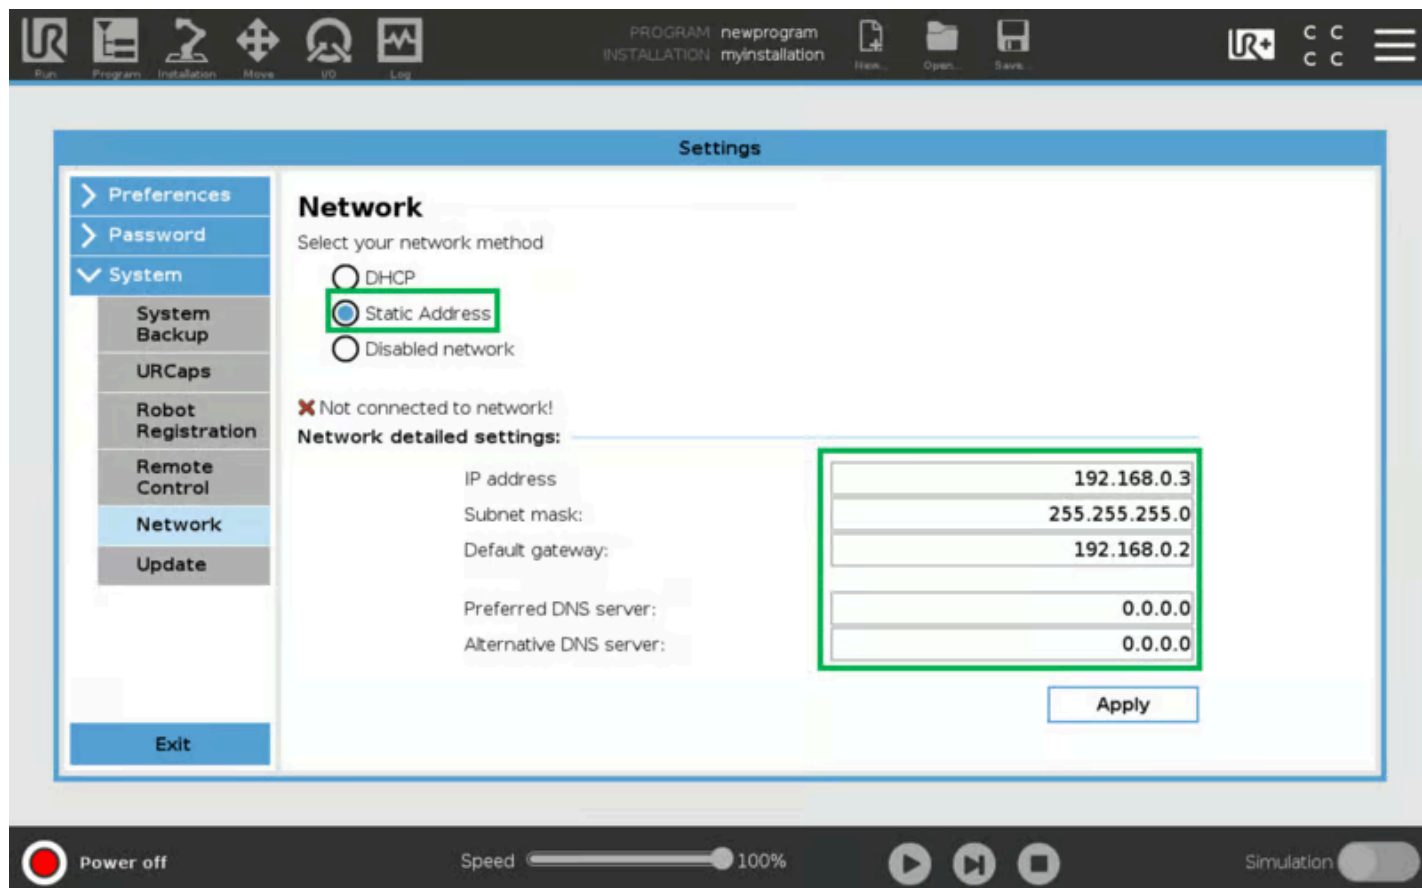

Figure 9: Network parameters setup
Enter the parameters as shown in Figure 9. Note that here, the UR controller IP address is **192.168.0.3**, and the MachineMotion controller IP address is **192.168.0.2**. Use the addresses specified for your UR Controller and your MachineMotion Controller; any address in the **192.168.0.xxx** subnetwork is acceptable. The other parameters should be configured as shown in Figure 9. Click **Apply** to save your settings.
- **IP Address:** IP address of the MachineMotion controller. In Figure 9, IP address **192.168.0.2** is used for the MachineMotion controller